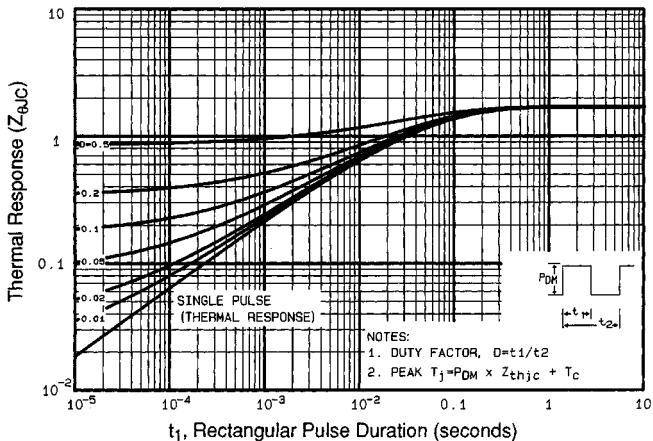

Fig 11. Maximum Effective Transient Thermal Impedance, Junction-to-Case
① Repetitive rating; pulse width limited by max. junction temperature (See Figure 11)
③ $I_{SD} \leq 9.0\text{A}$, $di/dt \leq 120\text{A}/\mu\text{s}$, $V_{DD} \leq V_{(BR)DSS}$, $T_J \leq 150^\circ\text{C}$